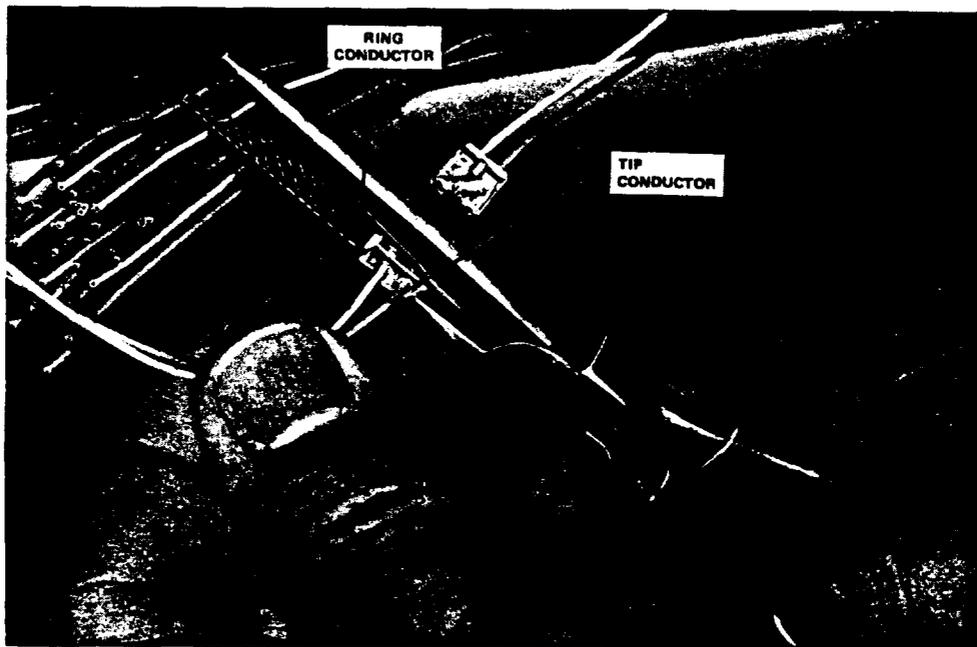

Figure 37. Pressing Connector with 6-Inch (152 mm) Long-Nose Pliers for Single Pair Operation
5.01 The 709-type connectors, used to join cable or wire, require no special tools for single pair operation. A standard 6-inch (152 mm), long-nose pliers (AT- 8810, Comcode 401773056) may be used to press the 709-type connector (Figure 37).